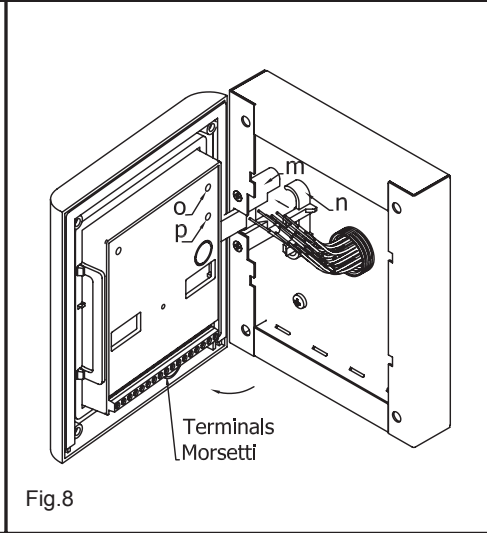

Fig.8
7. As shown in figure 8, open the module support frame h as suggested by the pointer, hook the hinge lock r to the hinge m. When the support frame is hooked to the surface box, do the following operations:
- 7b. test the system and if it is necessary adjust the loudspeaker and microphone volume through the trimmers accessible from the openings and (fig.8);